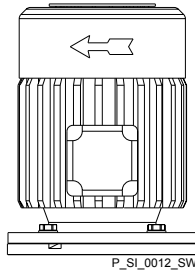

Fig. 14: Direction of rotation of motor
- When connecting the motor, pay attention to the correct direction of rotation indicated by the arrow on the fan cover, as shown in Fig. 14.